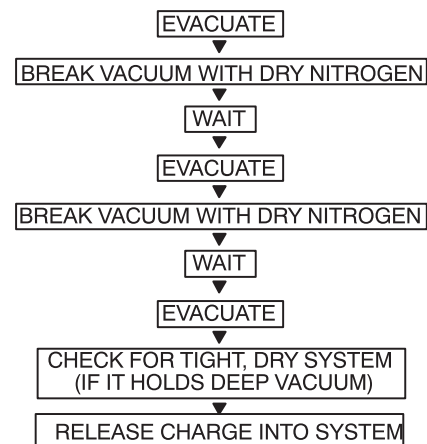

Fig. 8 —Triple Evacuation Method
The triple evacuation method should be used when vacuum pump is not capable of pumping down to 500 microns and system does not contain any liquid water. Refer to Fig. 8 and proceed as follows:
5. Repeat this procedure as indicated in Fig. 8. System is now free of any contaminants and water vapor.